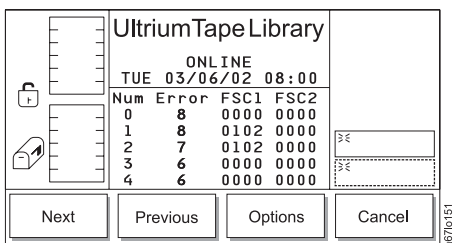

Figure 4-54. Drive Log Dialog
- Specify the drive that you want by performing steps 1 through 5 in “Viewing the Drive’s Error Log” on page 4-30. The Drive Log Dialog displays (see Figure 4-54).